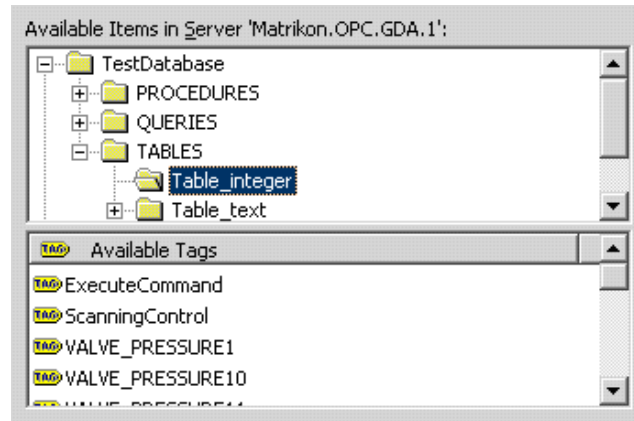

Figure 104 - Available Items/Tags Screen Sections
12. Items will appear listed in the **Available Tags** screen section (Figure 104).